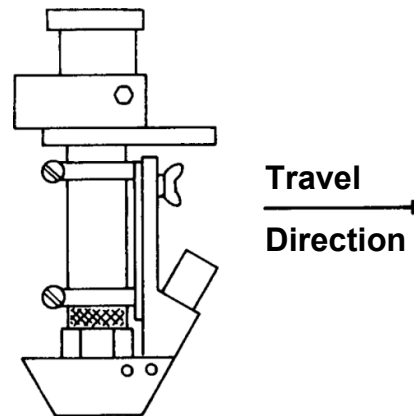

Figure 2
7. Position the moving member to the desired height of flux coverage and tighten the wing screw into the top tapped hole. See Figure 2.
1. Be sure nut (H) is tight. Drive out roll pin (G).
2. While holding the head, loosen nut (H) and lower the head (F) from the head support (E).
3. Loosen the nut (K) on the draw bolt (L); now remove the stationary mount (E), (not shown in Fig. 2).
4. Slide the clamp ring (A) over the end of the mounting bracket (M).
5. Drive the  $\frac{1}{4}$ " roll pin (B) into clamp ring (A) when the hole in the ring lines up with the groove in the mounting bracket (M).
6. Tighten the clamp ring (A) with the open slot in the up position, using the  $\frac{1}{2}$ " clamping bolt (C).
7. Slide the vertical head adjustment unit (E') into the mounting bracket (M). Tighten the draw bolt nut (K).
8. Install one adjustable clamp (D) on each side of the clamp ring (A).
10. Raise the welding head (or horizontal adjuster) back into position on the up and down lift shaft (N). Drive the  $\frac{5}{16}$ " roll pin (G) back into its original position.
11. Tighten draw bolt nut (H).